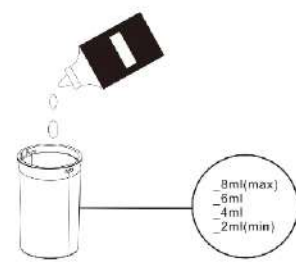

Figure 3
Open the nebulizer cup inlet flapper upwards (1) and according to the instructions from the atomizing cup (3) top Injection drug solution quantitative (see Figure 3). Liquid can not be injected over the atomizing cup (3) capacity scale online (maximum level 8ml)